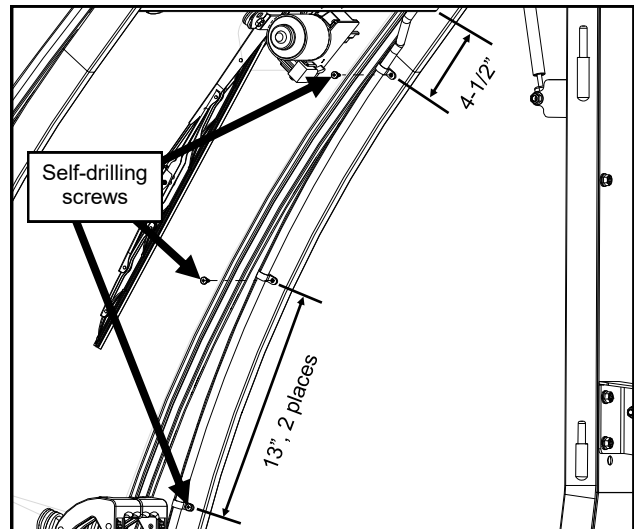

Fig. 17.4 (wire loom installation on sideframe - right)
**17.4** Secure the wire loom to the wire tie slot found on the windshield support and run the wire loom thru the hole found on the windshield support. See fig. 17.4.